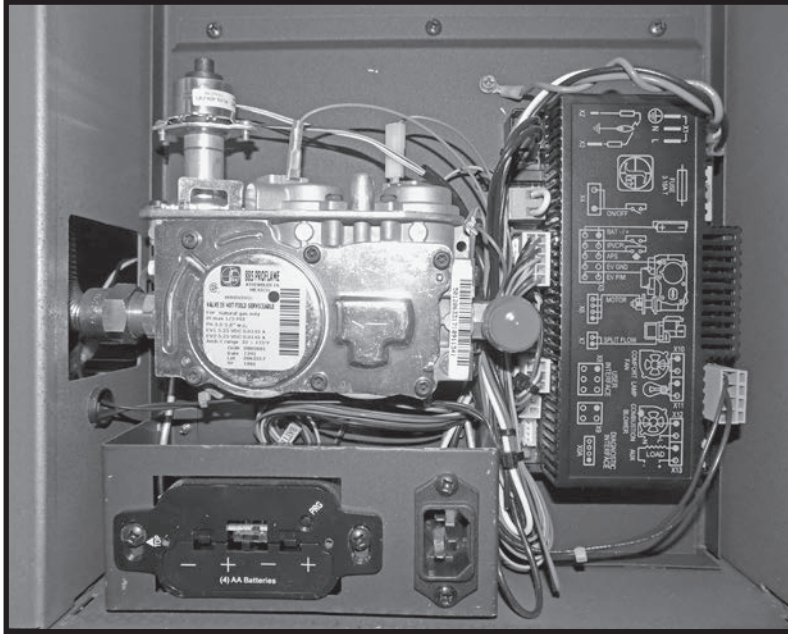

Figure 43: Valve & IFC module location.
1. Remove switch cover and back panel and locate the valve as seen in Figure 43.